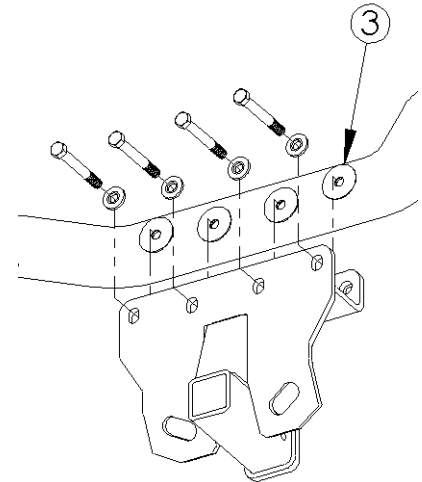

FIGURE 2
4. If there is excessive gap between the vertical surfaces of the hitch and the bumper structures, flat washers should be used as shims. They can be held in place using cellophane tape. See Figure 2.